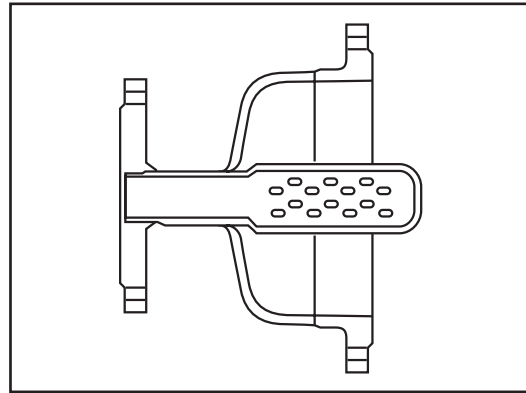

Figure 2
- NOTES: 1. Diffuser inlets for use on main valves with a flanged outlet have flanges of the same size as the main valve (see figure 2 on page 9).